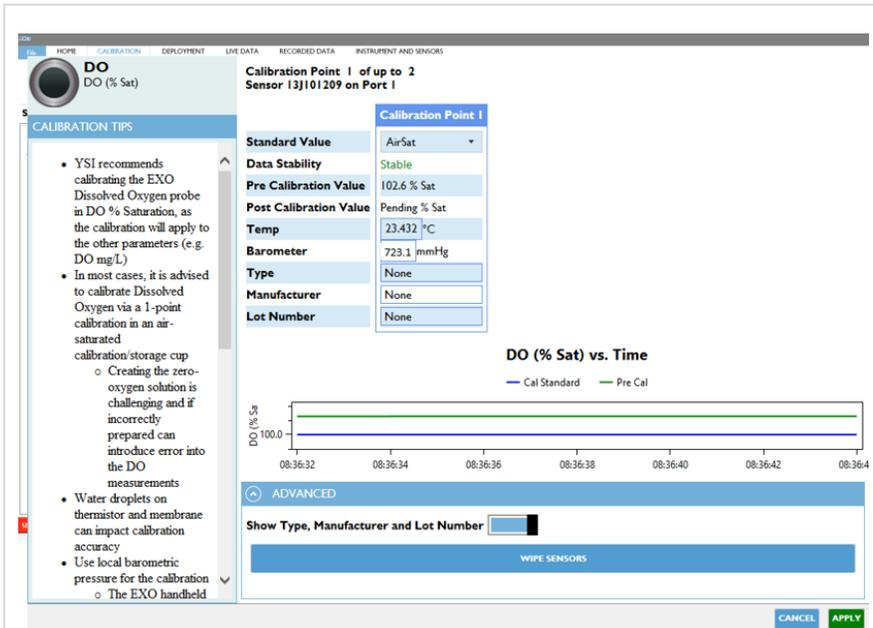

Figure 108. Enter values for first calibration point.
**STEP 3** | Input the following information in the **Device Calibration** window for a 1-point calibration process (Figure 108):